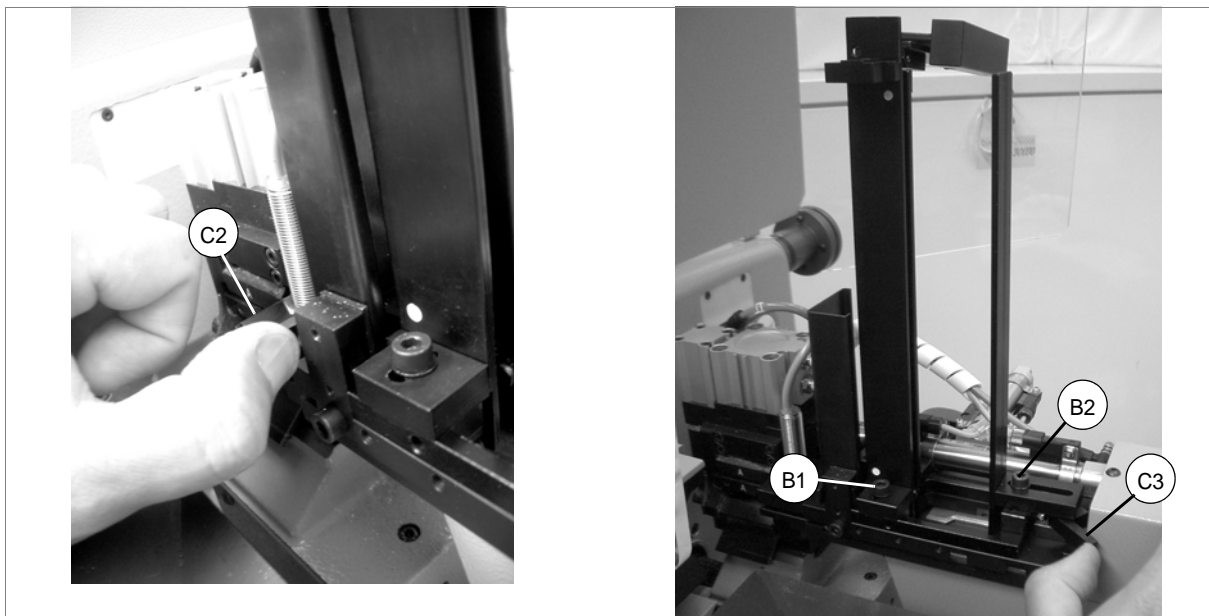

Fig. 9
Fit the loader to the feeder and engage it by moving the slide (C2) and turning the lever (C3) (fig. 9).
- 1) Tip the top part (C5) of the loader so that the keys can be inserted from above (fig. 9) (pay attention to the position of the key stop).